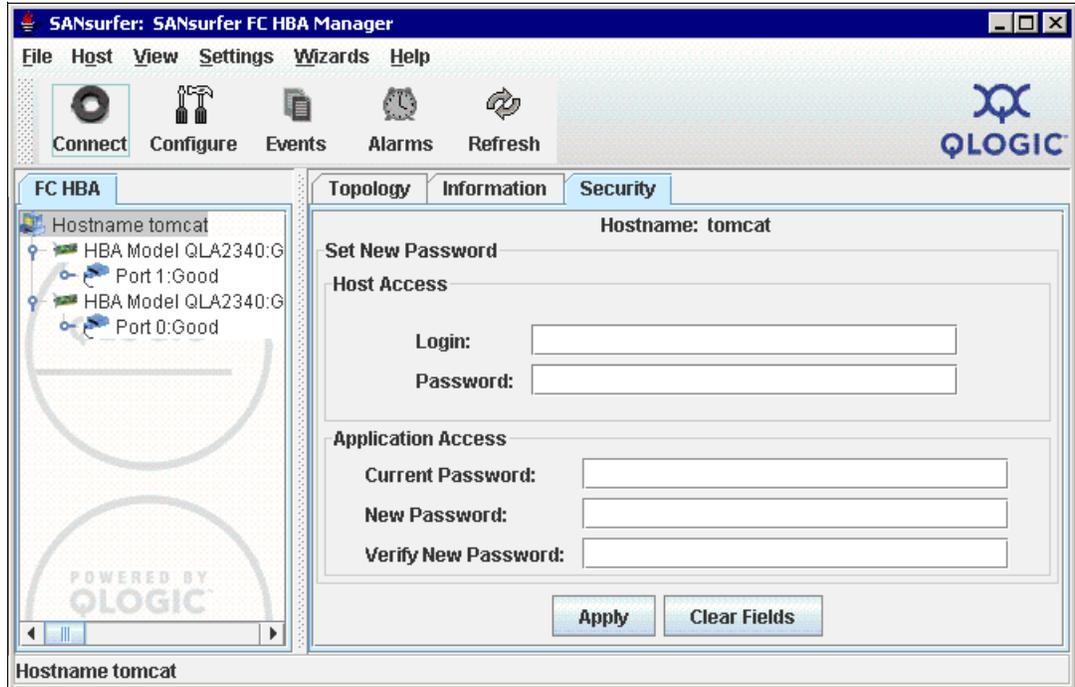

Figure 6-27 Qlogic SANsurfer Security view
- Application access specifies the password for changing settings on the HBAs (for firmware or NVSRAM download or BIOS settings). See Figure 6-27.